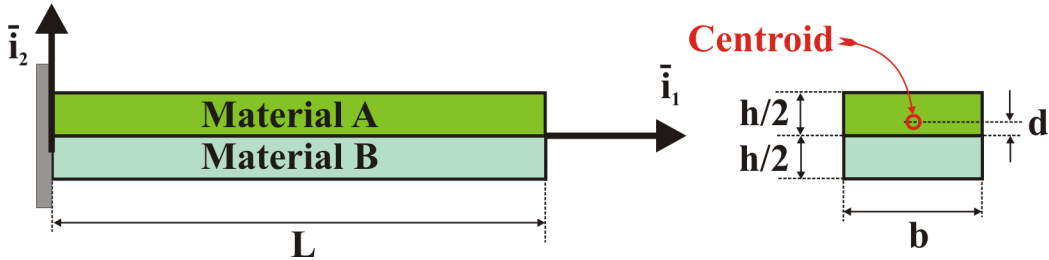

Figure 5: Cantilevered bi-material beam under uniform temperature field.
Consider the cantilevered beam of length L made of two half-beam, each of width b and height $h/2$, welded together along the beam's mid-plane, as depicted in fig. 5. The top beam is made of a material of Young's modulus E_a and coefficient of thermal expansion α_a , whereas the corresponding quantities for the lower beam material are E_b and α_b , respectively. The entire assembly is heated to a uniform temperature T . (1) Find the transverse displacement field for the bi-material beam. (2) On a single graph, plot the transverse displacement field for the six combinations of materials chosen from the materials listed in table 5. (3) What is the best combination of materials if the beam's tip deflection per degree of heating is to be maximized? (4) Find the thermal stress distribution in the beam. (5) On a single graph, plot the axial stress distribution over the cross-section the six combinations of materials chosen from the materials listed in table 5. (6) Find the location of the maximum axial stress. For what combination of materials are the thermal stresses maximized? (7) Check